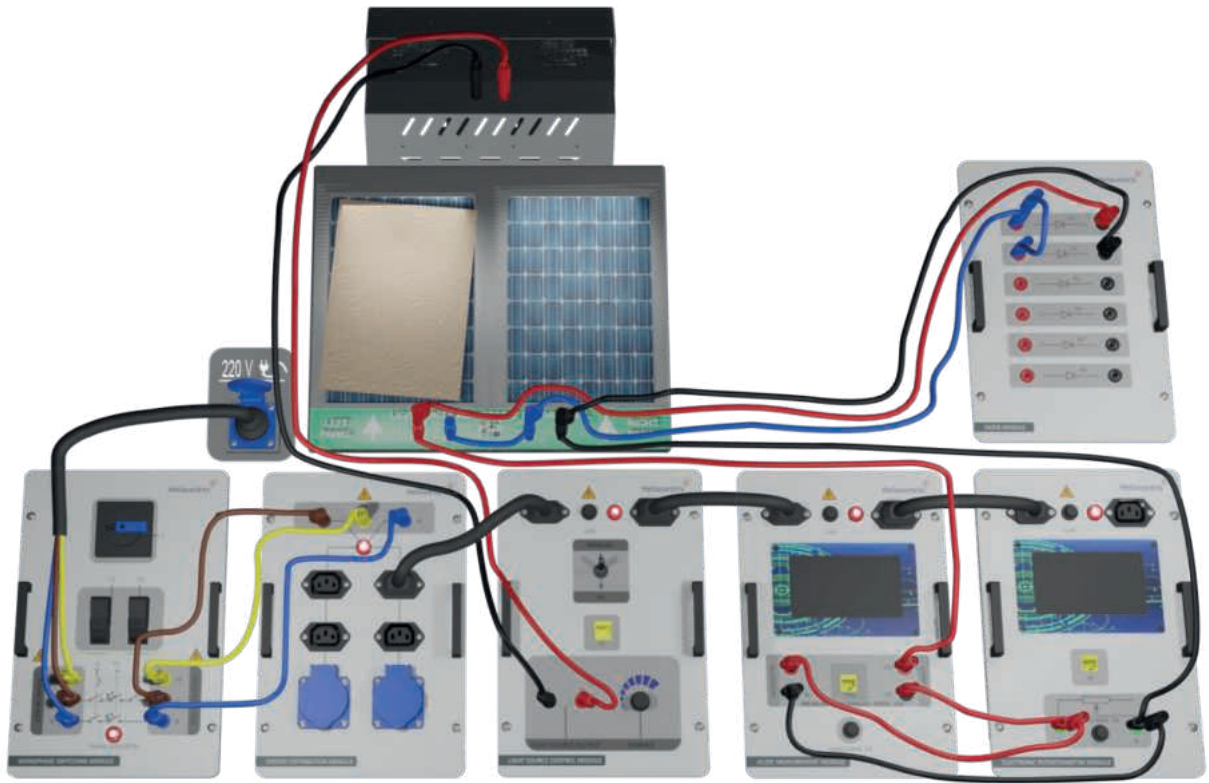

Figure-52. Installation Image of Examination of Effect of Bypass Diode in Photovoltaic Panels (with Shadow Effect)
7. After recording these measurements, connect the panels in parallel as shown in Figure-52 and Figure-53, and repeat the same experiment, measuring the voltage and current in the MM module, and record them in Table-42.